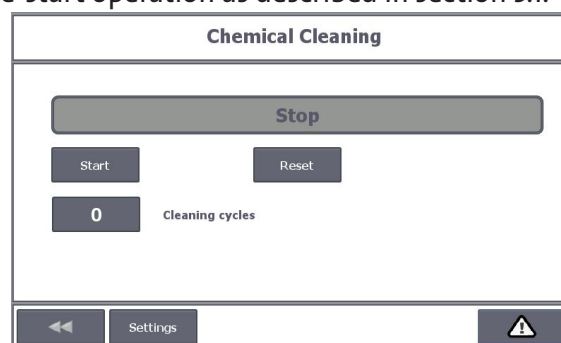

Figure 7.12 “Chemical cleaning” window.
4. Set the number of full cleaning cycles to be completed, see Figure 7.12.
5. Select “Start” to start the chemical cleaning programme, see Figure 7.12. (Settings are found under “Settings”, see Automatic System Manual.)